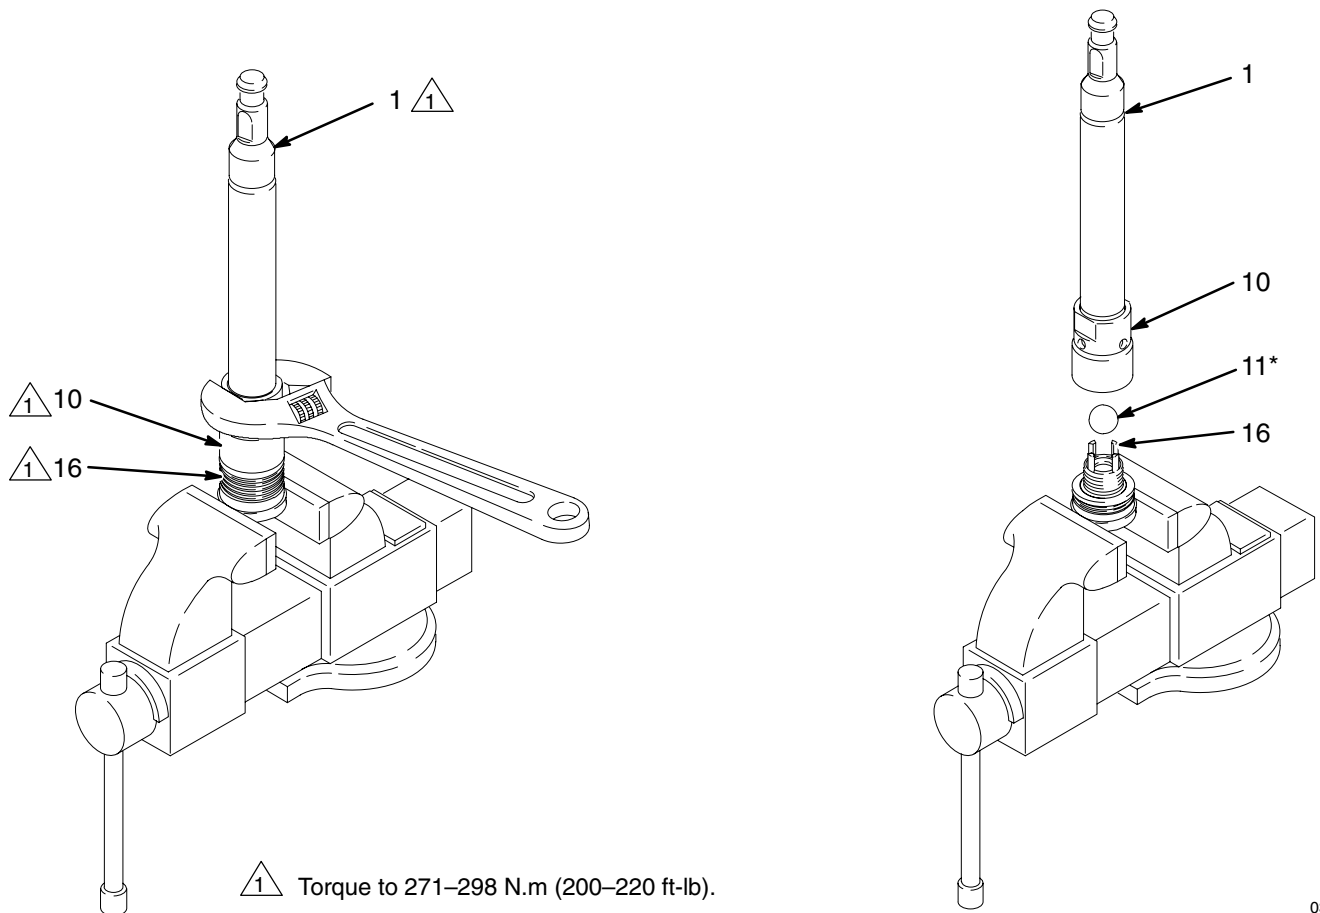

Fig. 8
- a. Unscrew the valve housing (18) from the cylinder, using a 2–5/8 in. wrench for the cylinder flats. Using a rubber mallet, drive the displacement rod (1) and piston assembly out of the outlet housing (7) and cylinder (9) until the piston comes free. Pull the rod and piston from the cylinder, being careful not to scratch the parts.
- b. Using a 2–5/8 in. wrench for the cylinder flats, unscrew the cylinder (9) from the outlet housing (7). Remove the two seals (8) from the cylinder. Shine a light into the cylinder (9) to inspect the inner surface for scoring or wear. Now go to step 4.
- c. Unscrew the cylinder (9) and valve housing (18) from the outlet housing (7). Gently pull the cylinder and valve housing straight out of the outlet housing; the displacement rod (1) and piston assembly will come out with these parts.
- d. Place the valve housing (18) in the vise and unscrew the cylinder (9) from the housing, using a 2–5/8 in. wrench for the cylinder flats. The displacement rod (1) and piston assembly will remain in the cylinder.
- e. Using a rubber mallet, drive the displacement rod (1) and piston assembly out of the cylinder (9) until the piston comes free. Pull the rod and piston from the cylinder, being careful not to scratch the parts.
- f. Remove the two seals (8) from the cylinder. Shine a light into the cylinder (9) to inspect the inner surface for scoring or wear. Now go to step 4.
4. Place the flats of the piston seat housing (16) in a vise, as shown in Fig. 8.
5. Using an adjustable wrench, unscrew the piston ball housing (10) from the piston seat housing. Be careful to catch the piston ball (11) as you separate the piston seat housing and ball housing, so that it does not fall and suffer damage.
6. Examine the displacement rod (1) for scratches or other damage. **Only if the rod needs replacement**, unscrew it from the piston ball housing (10), using an adjustable wrench on the flats of the rod.
3. Place the flats of the piston seat housing (16) in a vise. Place the ball (11\*) on the housing. Screw the piston ball housing (10) onto the piston seat housing hand tight, then torque to 271–298 N.m (200–220 ft-lb). See Fig. 8.